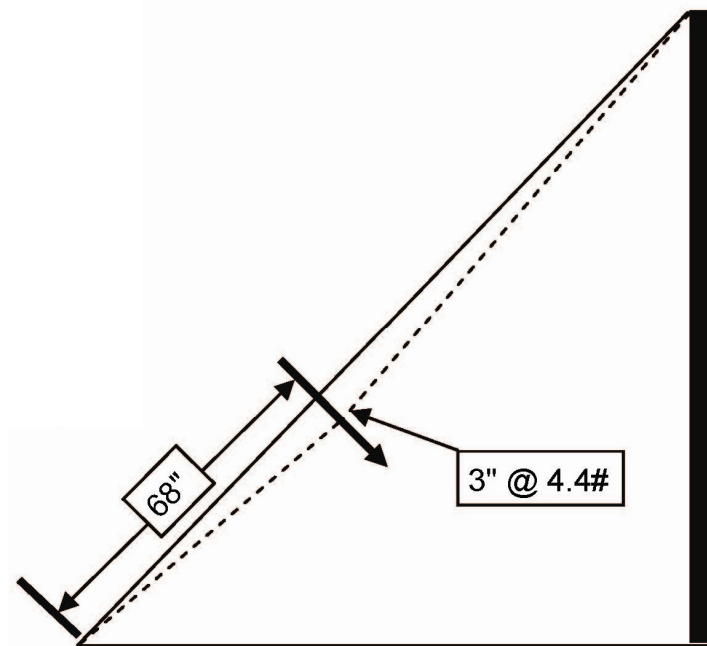

FIGURE 2.5-4. Guy Cables with 100 lbs of Tension
Step 5: Adjust each cable turnbuckle to maintain plumb and increase cable tension. A deflection of 3 inches when using a 4.4 pound (2N) perpendicular force, 68 inches from the duckbill anchor loop equates to 100 pounds of tension in the cables (see Figure 2.5-4).